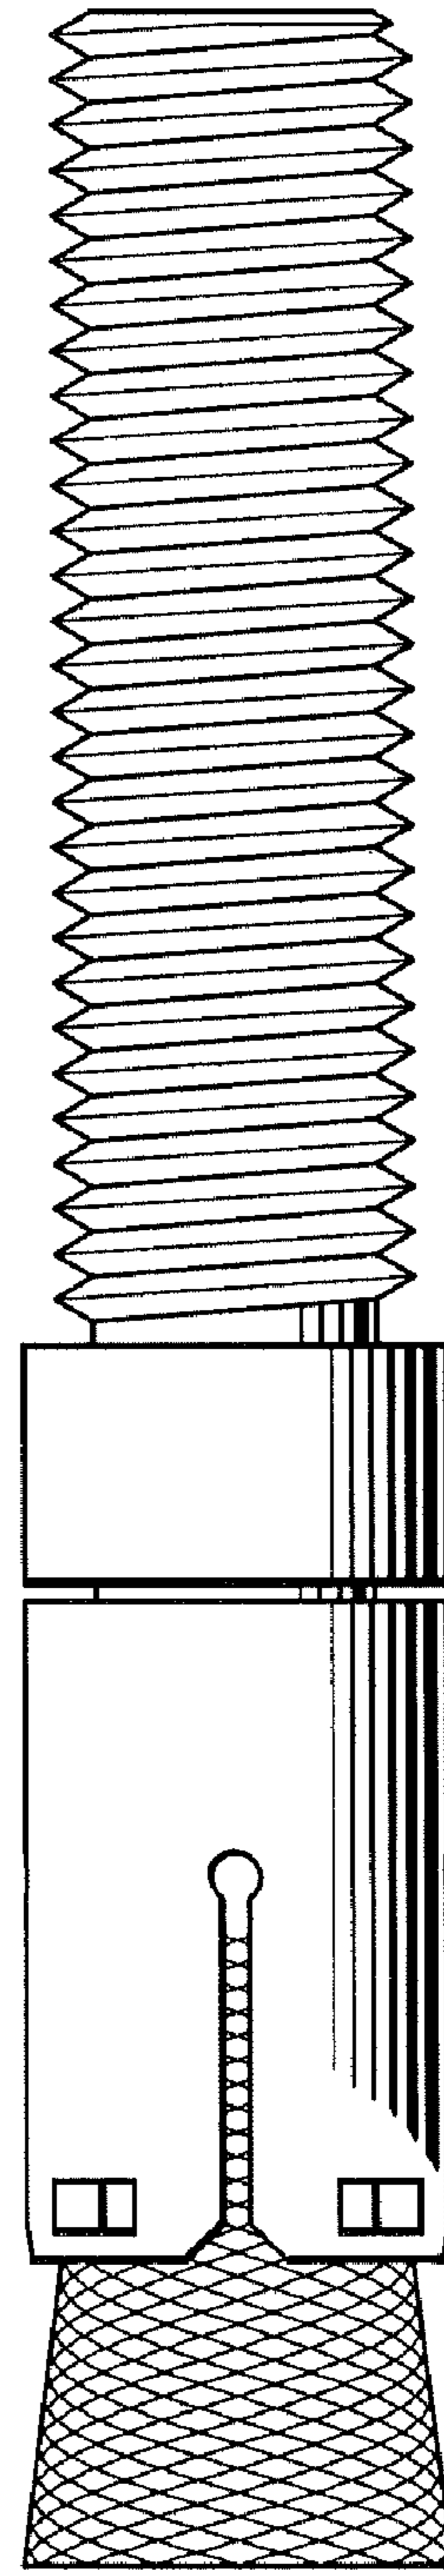

Fig. 2
- FIG. 2 is a side view of the stud having a diamond-knurled wedge;